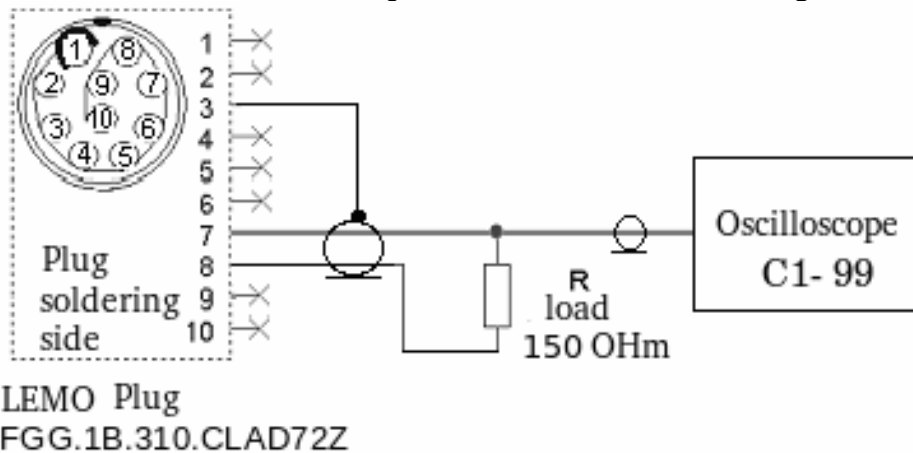

Fig. 22 Workbench scheme for the amplitude and pulse-repetition frequency nominal value testing.
##### 14.3.1.1 Assemble the stand according to the scheme illustrated in Fig. 22.
14.3.2.1 Assemble the stand according to the scheme given in the Fig. 22.